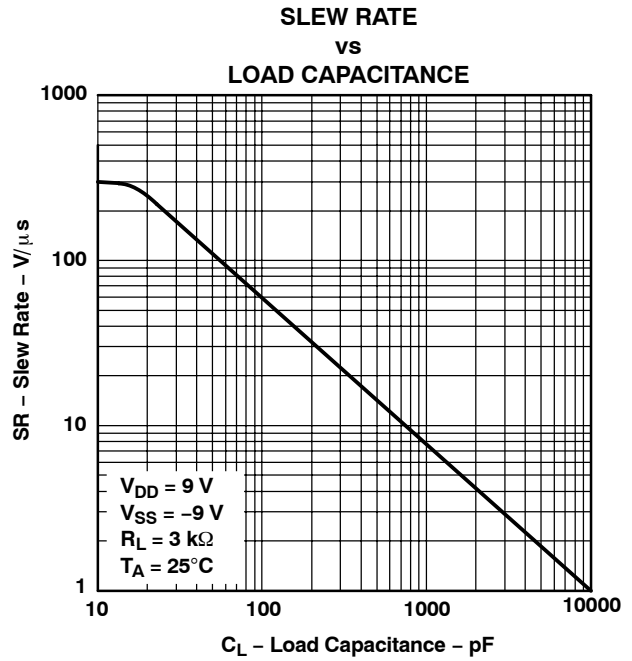

Figure 10.
- (1) See Figure 10 to select the correct values for the loading capacitors (C1, C2, and C3), which are required to meet the RS-232 maximum slew-rate requirement of  $30 \text{ V}/\mu\text{s}$ . The value of the loading capacitors required depends on the line length and desired slew rate, but typically is 330 pF.